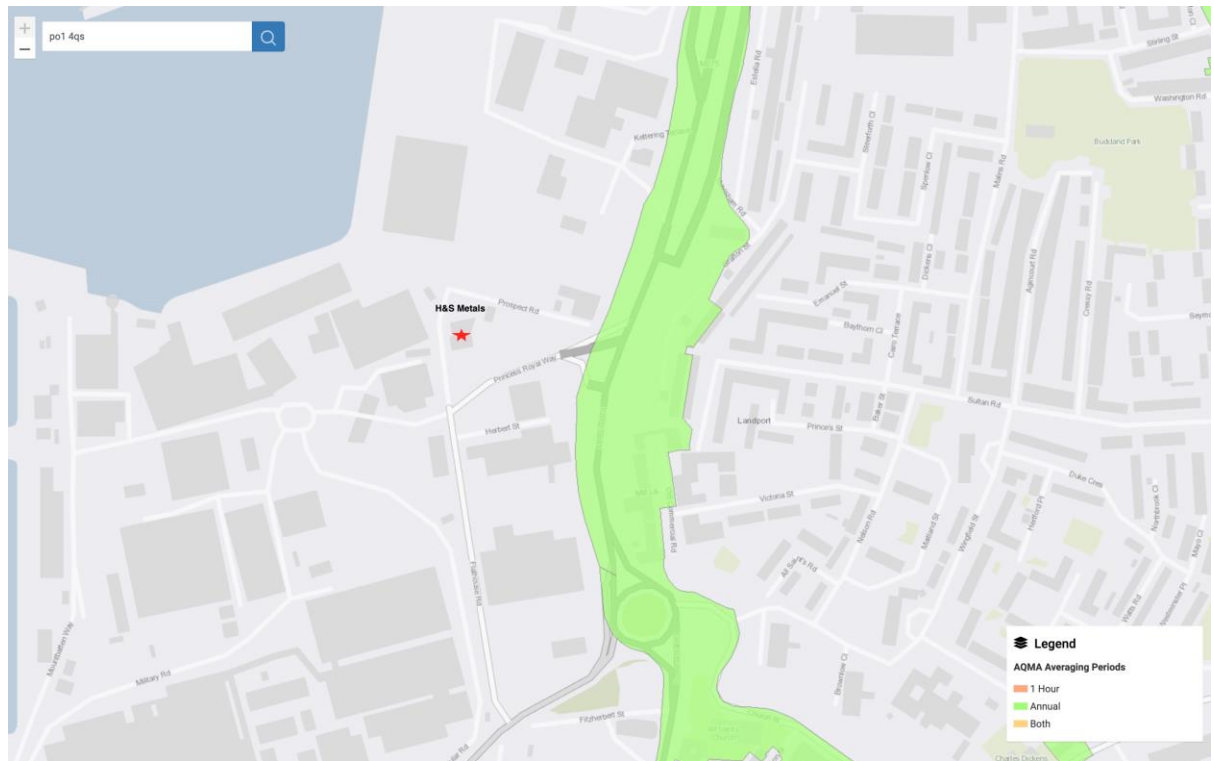

Figure 1: Site and Key Receptors showing proximity to AQMA
- 2.10 The key receptors are shown in Figure 1 below.